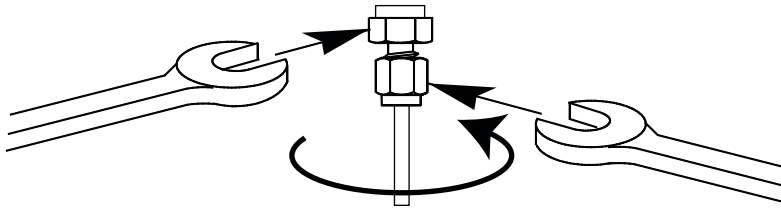

Figure 29 Final tightening
- 9 For 1/8-inch Swagelok fittings, use a pair of wrenches to tighten the fitting 3/4 of a turn (see Figure 29).